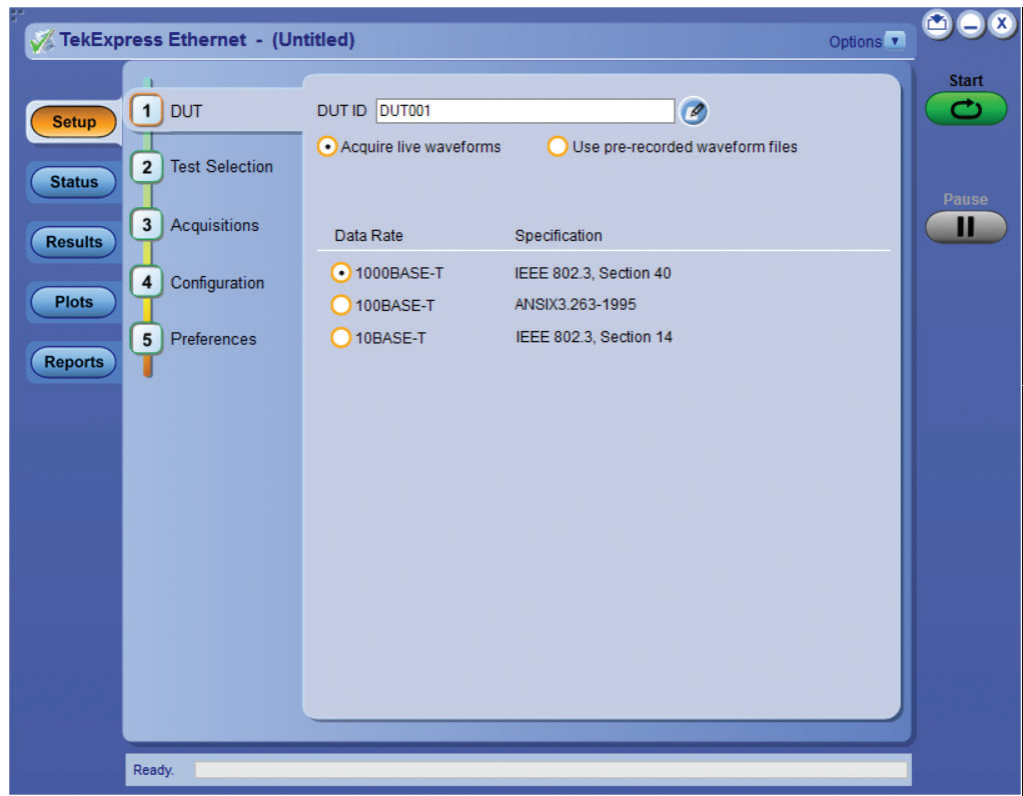

Figure 14: TekExpress Ethernet DUT panel with data rate selection.
**Figure 14** indicates the DUT panel of TekExpress Ethernet software with data rate selection.